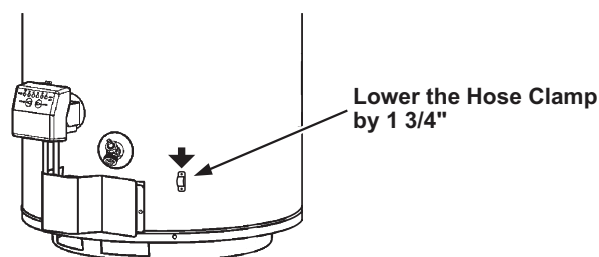

FIGURE 4.
8. Lower the hose clamp near the bottom of the jacket by 1-3/4 inches from its current position to clamp the drain hose from Vent Pipe Assembly #1; i.e. use the current lower hole as the top hole and drill another hole for mounting the hose clamp. Refer to Figure 4.